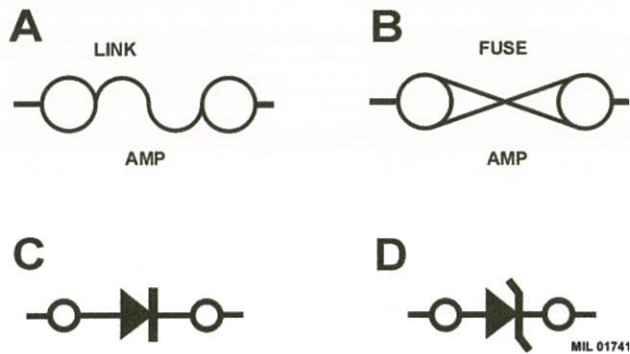

Fig 8 Fuses and diodes
20 Fusible links (refer to Fig 8 (A)) and current fuses (B), are identified as shown. The direction of the arrow in a diode symbol (C) indicates the direction of flow. The Zener diode (D) prevents current flow until a precise voltage is reached.